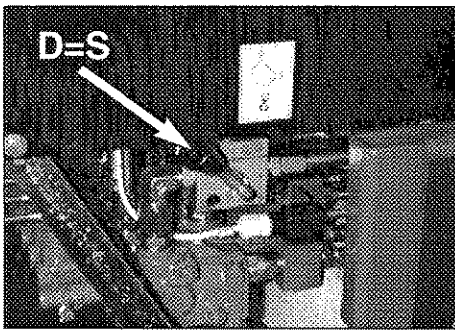

fig. 19
- Position lever **D** of oil diverter crane-outriggers (⚙ - **S**) on **S** (fig. 19 plate **DE2347**).